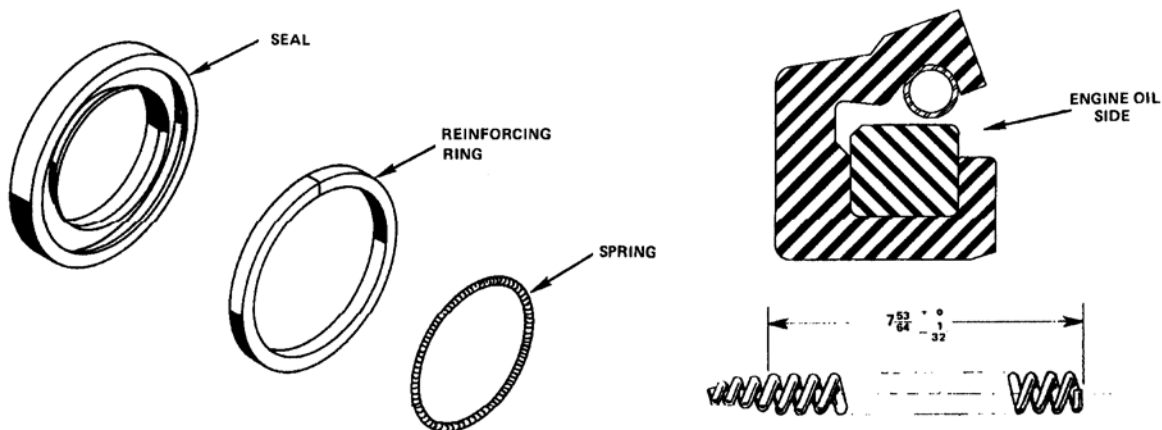

FIGURE 2
- A. Use only oil seal assembly P/N 641250 which consists of an oil seal, retainer ring and spring P/N 641306. Check the spring length. It should be 7-53/64"  $\frac{+0}{-1/32}$  in length. (See Figure 2.)